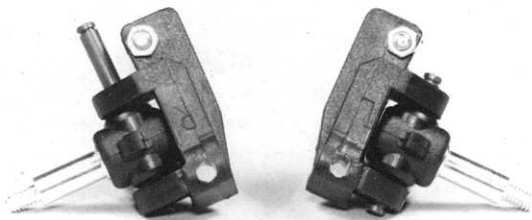

Fig. 6
□ **Figs. 6, 7 & 8** Now we are going to install the steering block/axle assemblies into the carrier blocks. **1)** If you look closely at the front of the carrier blocks you will see the "R" and "L" that are scribed into them. **2)** Look back at fig. 3 and install the left steering block into the left carrier block, then do the same for the right side blocks. Make sure that the ball ends on the assembly will be on the same side (in this case both facing up). **3)** Now reinstall the two kingpins into each assembly as shown in fig. 6.